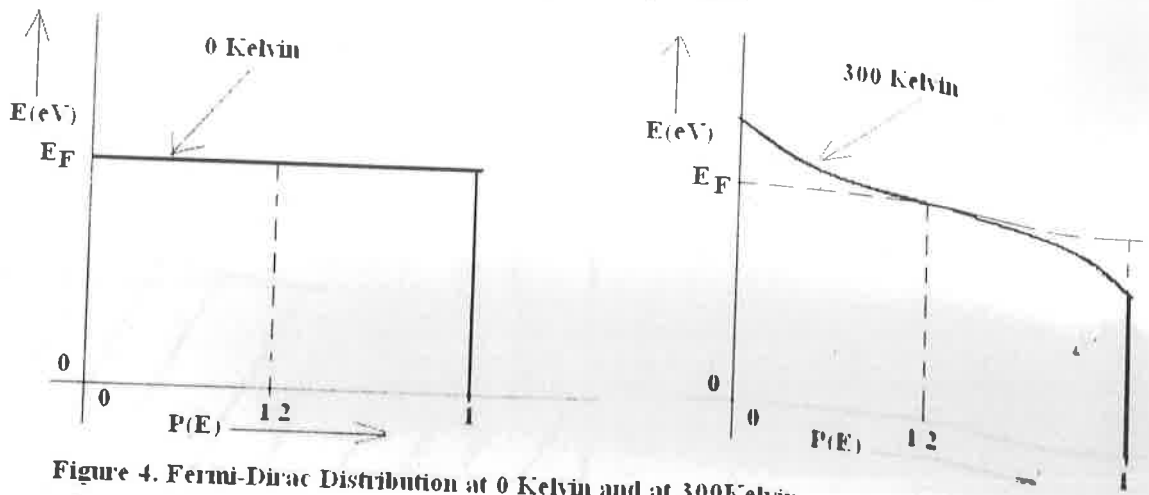

Figure 4. Fermi-Dirac Distribution at 0 Kelvin and at 300 Kelvin.
- ii. The Fermi Distribution is rectangular at Zero Kelvin and is askewed at Temperature T Kelvin. As Temperature rises, curve gets more and more askewed as shown in Figure 4.
- iii. At absolute 0K Thermal Energy is Zero, lattice vibrations are zero and lattice scattering is zero and the material can exhibit Superconductivity. In a metal, electrons occupy the lowest energy states and the highest energy state of electron in partially filled conduction band is Fermi-Energy (E_F) at 0 Kelvin as shown in Left Graph in Figure 4. But at higher temperature conducting electrons are not confined to Fermi-Energy (E_F) but they are jumping to higher energy states as shown in Right-side Graph in Figure 4. If the conducting metal is kept in vacuum then at higher temperature electrons may jump out of the metal into vacuum forming a Space